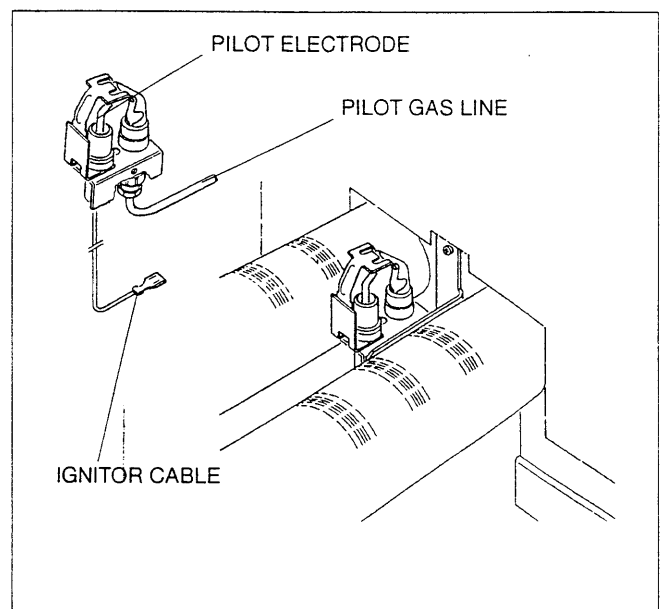

Fig.6: Pilot Assembly
18. Disconnect the pilot gas line from the pilot assembly, fig. 6.
21. Verify the pilot hood to main burner relationship shown in fig 6.